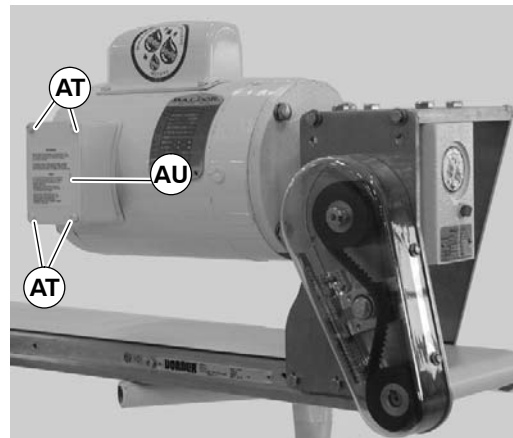

Figure 39
- Loosen terminal box screws (AT of Figure 39) and remove cover (AU).